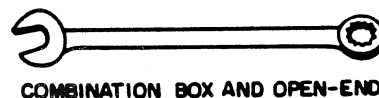

Figure 10.26. Combination Box and Open-End Wrench
1. Many mechanics prefer combination wrenches. A box wrench on one end and an open-end wrench on the other. They use the box end for "breaking-loose" or "snugging down" nuts and use the open-end the rest of the time. (Figure 10.26)